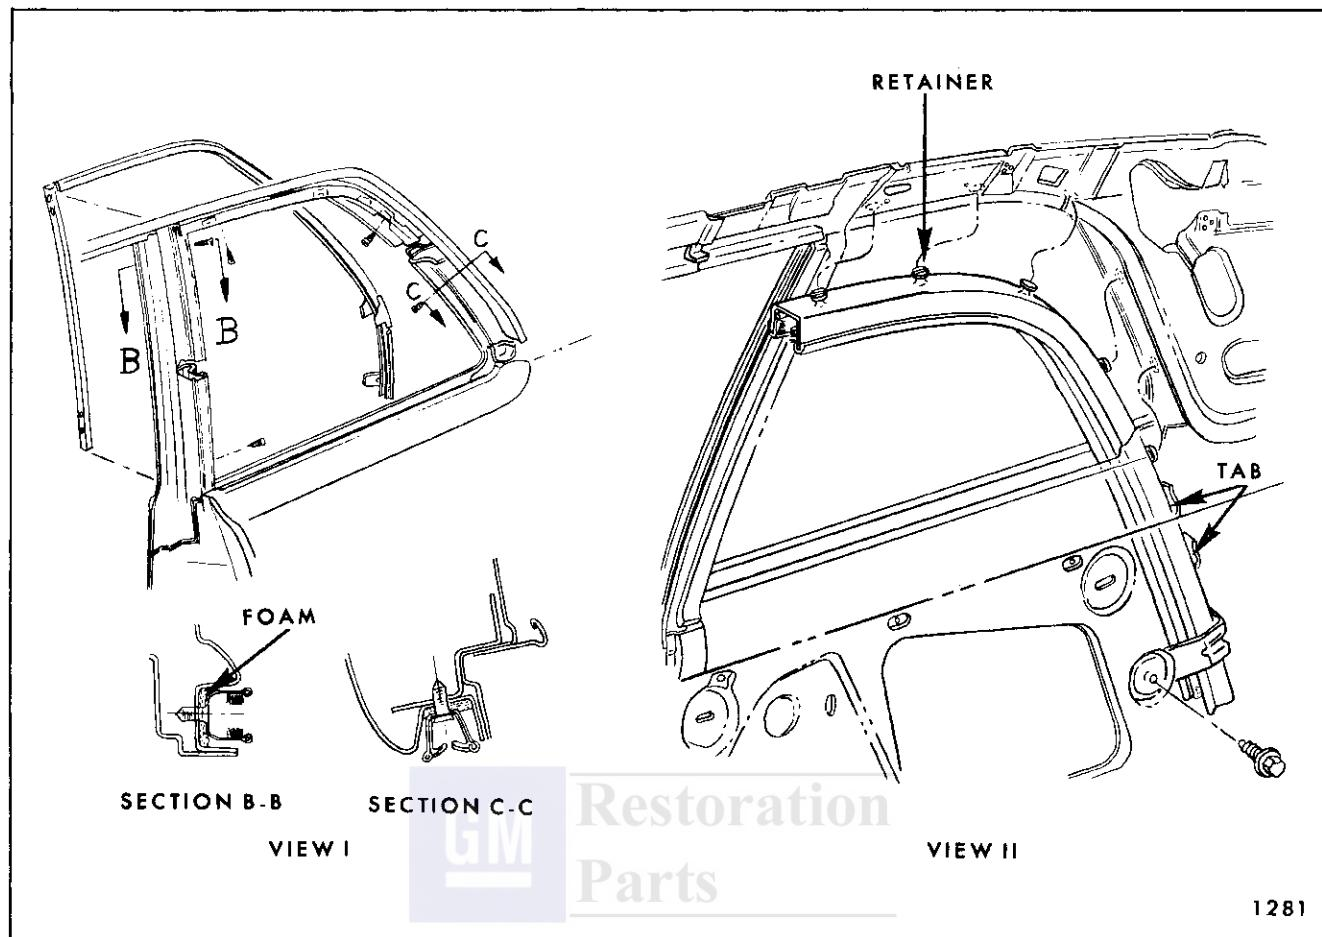

Fig. 7-8—Rear Quarter Window Glass Run Channels — Typical of all Closed Styles
- Remove run channel to inner panel attaching bolt (Fig. 7-8).